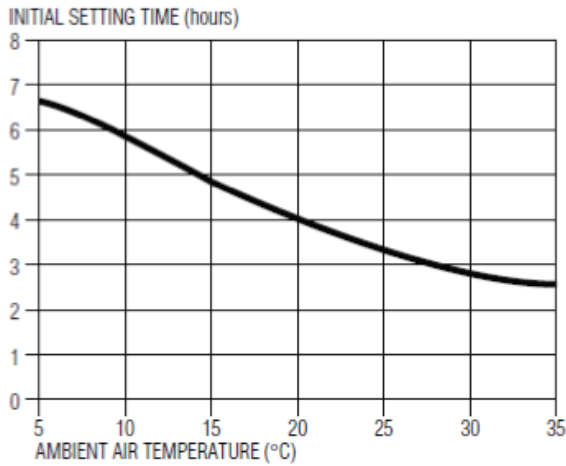

Figure 1: Influence of air temperature on setting times of concrete made with Type GP cement
- **Setting time** As the concrete temperature increases, the setting time, and thus the time to place, compact and finish the concrete is reduced (See Figure 1).